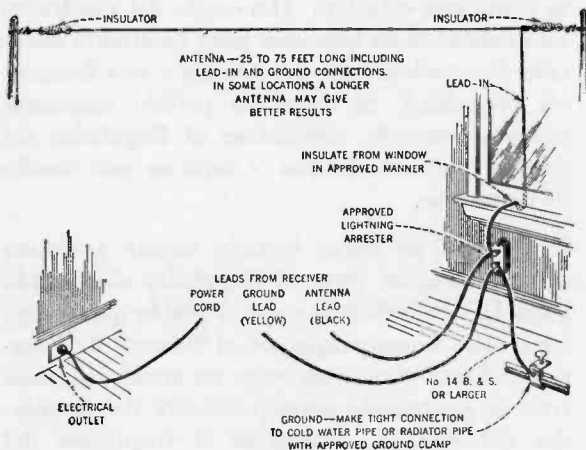

Figure 1
**Connections**—Figure 1 shows the external connections and the recommended antenna system. A good ground connection is important. Make connections to the antenna and ground as illustrated.